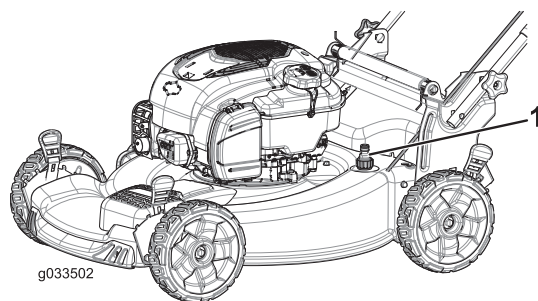

Figure 26
4. Attach a garden hose that is connected to a water supply to the washout port on the machine (Figure 26).